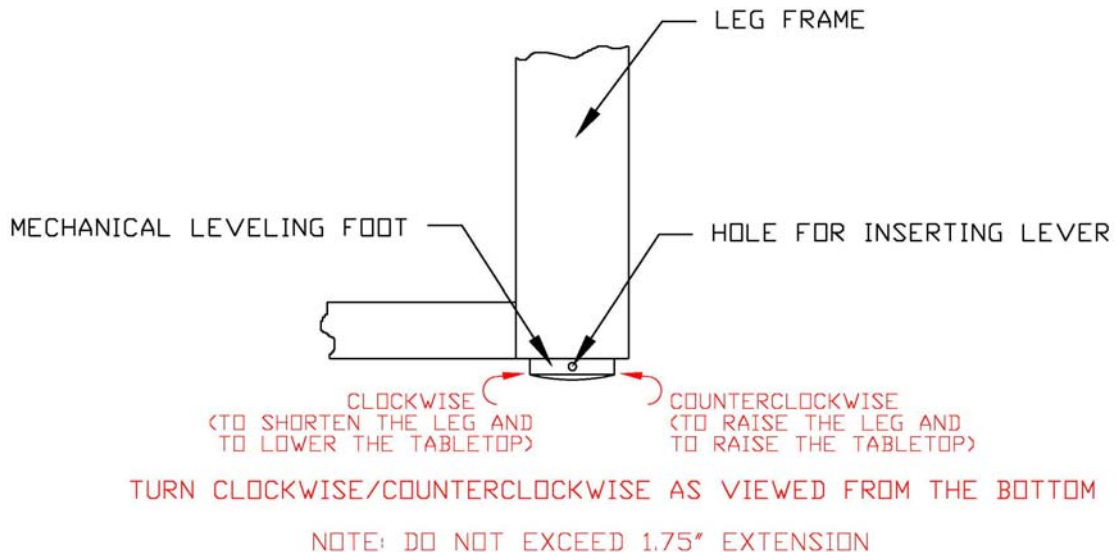

Fig. 2 Mechanical Leveling Foot Height Adjustment
2. Remove the protective wood blocks from the bottom of each leg. The Mechanical Leveling Feet are fully retracted for shipping. Rotate each foot **COUNTERCLOCKWISE** (See Fig. 2) so that they extend $\frac{3}{4}$ to 1" below bottom of the leg.
6. After the table is moved and located at its final destination, place a carpenter's level diagonally across the Tabletop or use the built-in levels on the Tabletop to check for level condition in all directions. If an out-of-level condition is detected, adjust the Leveling Feet by inserting a thin rod or screwdriver (as shown in Fig. 2) into the hole on the side of the Leveling Foot. Looking from the bottom, rotate the leveling foot **CLOCKWISE** to shorten the leg and lower the Tabletop. Rotate the foot **COUNTERCLOCKWISE** to lengthen leg and raise Tabletop. After leveling the tabletop, ensure that all the four leveling feet are in contact with the floor. If any gap is observed, rotate the leveling foot counterclockwise to close the gap as shown in Fig. 2. Check the tabletop level and repeat if necessary.